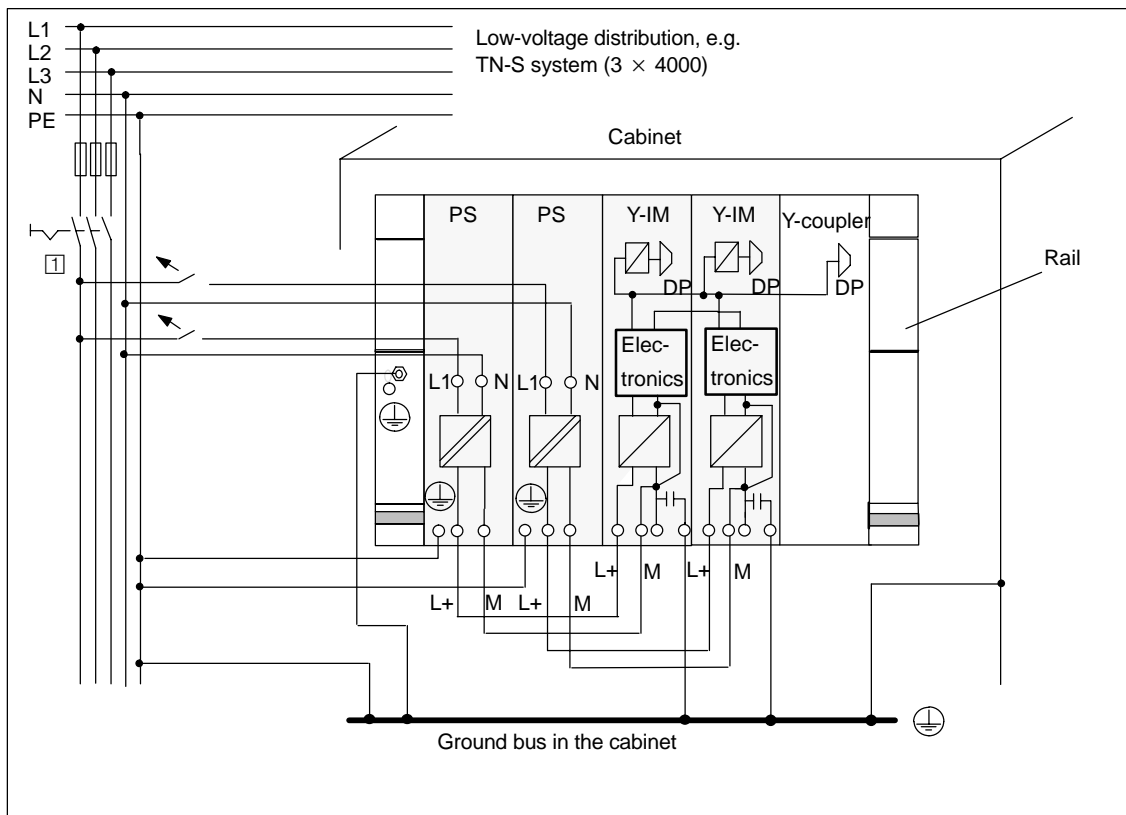

Figure 4-1 Operating the Y-Connection with a Grounded Supply
- Main switch (in Figure 4-1,
Figure 4-1 shows the position of the Y-connection in the overall configuration with supply from a TN-S system. When the Y-connection is configured with grounded reference potential, any interference current is discharged to the protective conductor.